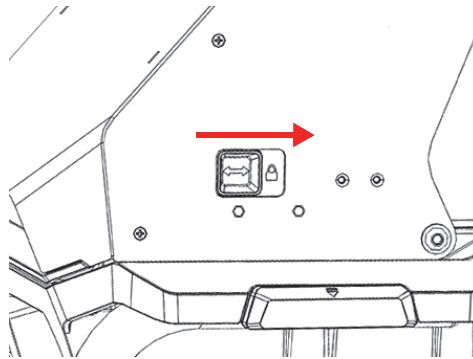

Figure B-10 Lid locking lever in locked position
1. Slide the lid locking lever to the right to unlock the lid (see Figure B-10 on page 115).